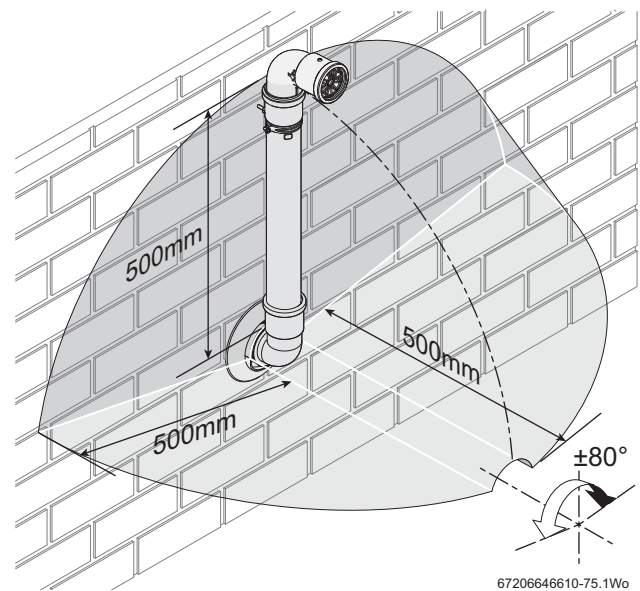

Fig. 19 Terminal exclusion zone
▶ Do not terminate the plume management inside the shaded area shown in figure 19